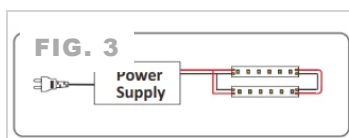

Fig. 3 · Loop-back
- 03 Loop-back.** Single looped run with both legs returning to the driver. Consistent results — common for room perimeter and cove. (FIG. 3)